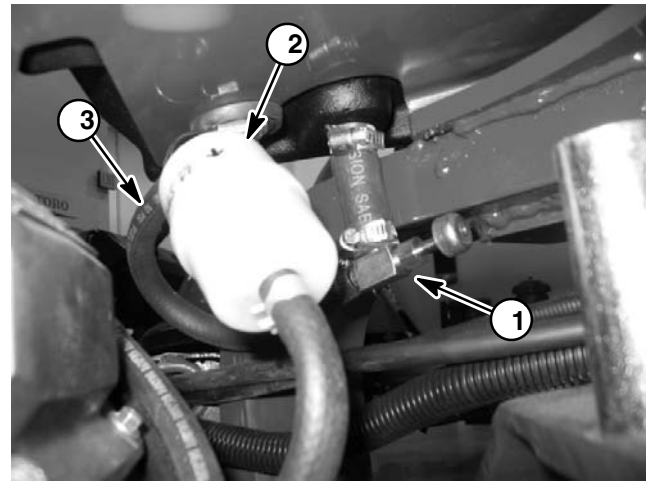

Figure 6
2. Close tank fuel shut-off valve. Disconnect fuel hose from the fuel filter (Fig. 6).